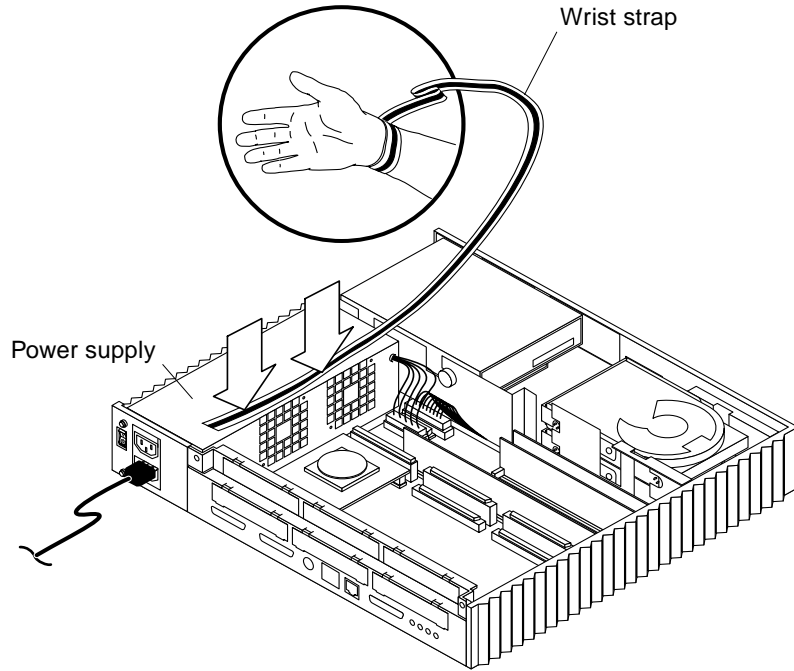

FIGURE 7-3 Grounding Wrist Strap to Power Supply
1. Unwrap the first two folds of the wrist strap. Wrap the adhesive side firmly around the wrist (FIGURE 7-3).